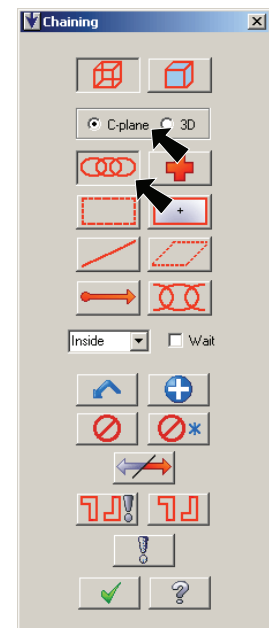

Fig. 8
Step 6. Select **C-plane** in Chaining dialog box, **Fig. 8**.
Step 7. Click **Chain** button  in the Chaining dialog box, **Fig. 8**.